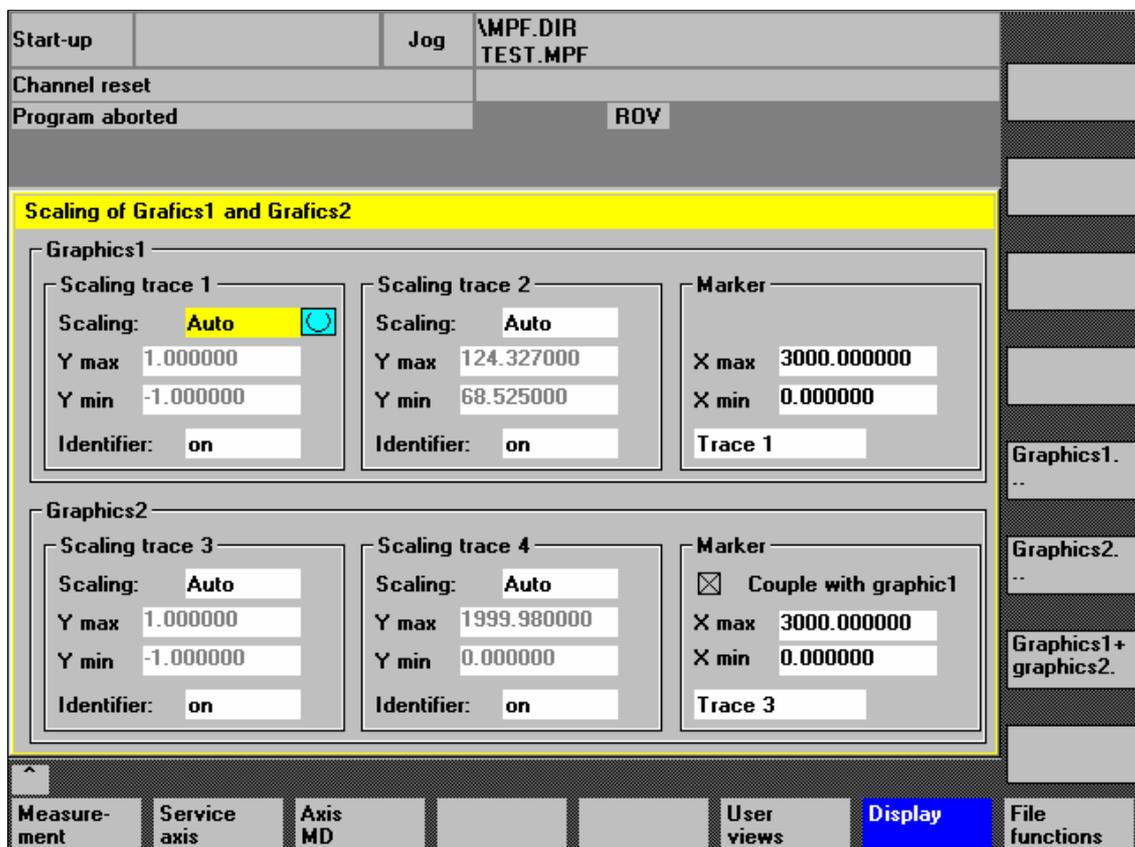

Fig. 13-12 Menu: Scaling of graphics
- Switching over the display from double to single graphics and vice versa (this function also exists in the scaling menu Fig. 13-12, Page 13-444)